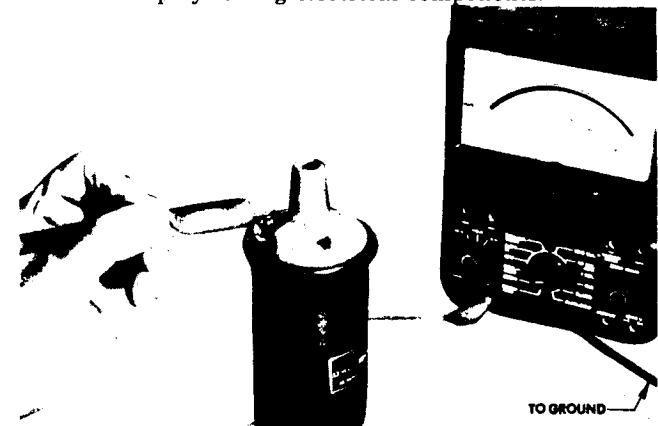

FIG. 9-VOLTAGE CHECK-AT COIL
Connect appropriate test leads of voltmeter to + side of coil and ground (see Fig. 9). Crank engine ... meter reading should indicate a cranking voltage of approximately 8 volts or more depending on condition of battery. If reading is zero (0) check wire connections at starter solenoid, seat belt interlock, wiring, neutral safety and ignition switches for open circuit. And then correct. *If O.K.*, move ignition switch to "ON" (engine not running) position and connect meter as before. If voltage reading is zero, check loom ballast resistor, wiring and ignition switch for open circuit. If meter reads battery voltage, then check coil primary or wiring for "open" circuit, also the electronic module *could be* defective. Replace faulty unit or repair wiring as needed. If read-out is normal (4.9 to 7.9 volts), then follow up by testing electrical components.